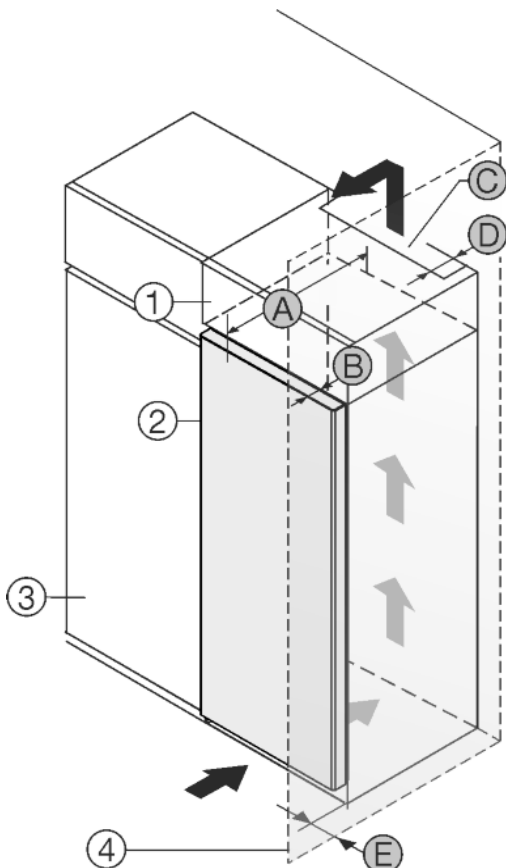

Fig. 1
Set up the appliance directly next to the kitchen cabinet Fig. 1 (3).\*
There must be a ventilation shaft with depth Fig. 1 (D) at the back of the top cupboard over the entire width of the top cupboard.
The cross section of the ventilation gap Fig. 1 (C) must be maintained below the ceiling.
If the appliance is installed with the hinges next to a wall Fig. 1 (4), the distance between the appliance and the wall must be at least 40 mm. This is how far the handle protrudes when the door is open.